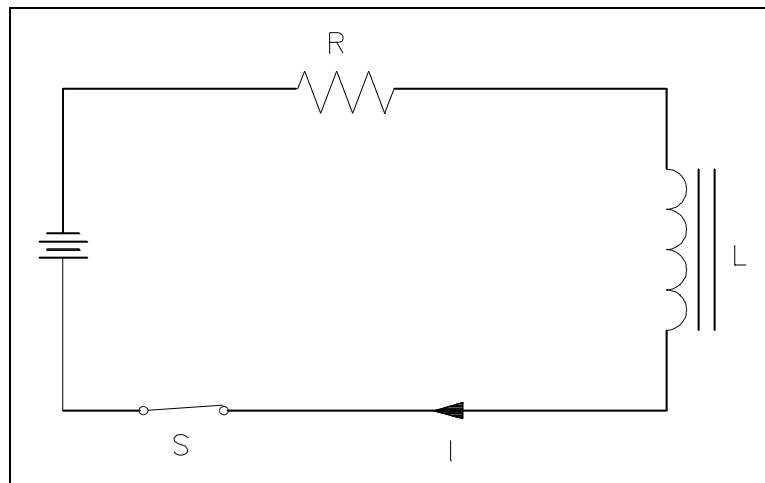

Figure 3 Self-Induced EMF
Self-induced EMF is another phenomenon of induction. The circuit shown in Figure 3 contains a coil of wire called an inductor (L). As current flows through the circuit, a large magnetic field is set up around the coil. Since the current is not changing, there is no EMF produced. If we open the switch, the field around the inductor collapses. This collapsing magnetic field produces a voltage in the coil. This is called self-induced EMF.